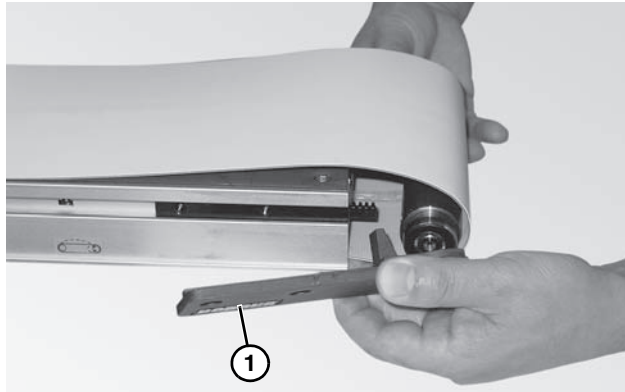

Figure 48
2. Place the head plate (**Figure 48, item 1**) and attach the head plate to the conveyor frame with the two (2) screws removed and hand tighten.